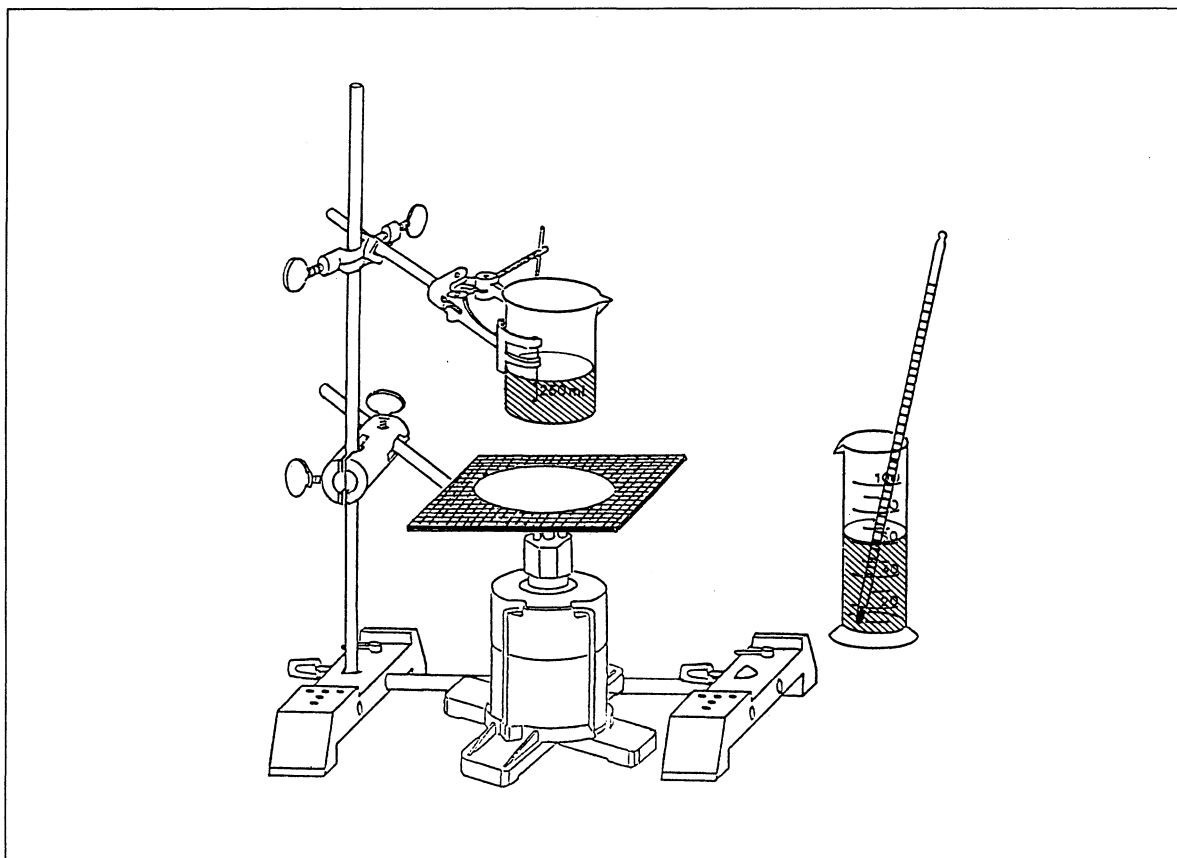

Fig. 1 Setup for mixing quantities of water
1. Assemble the stand setup shown in fig. 1.